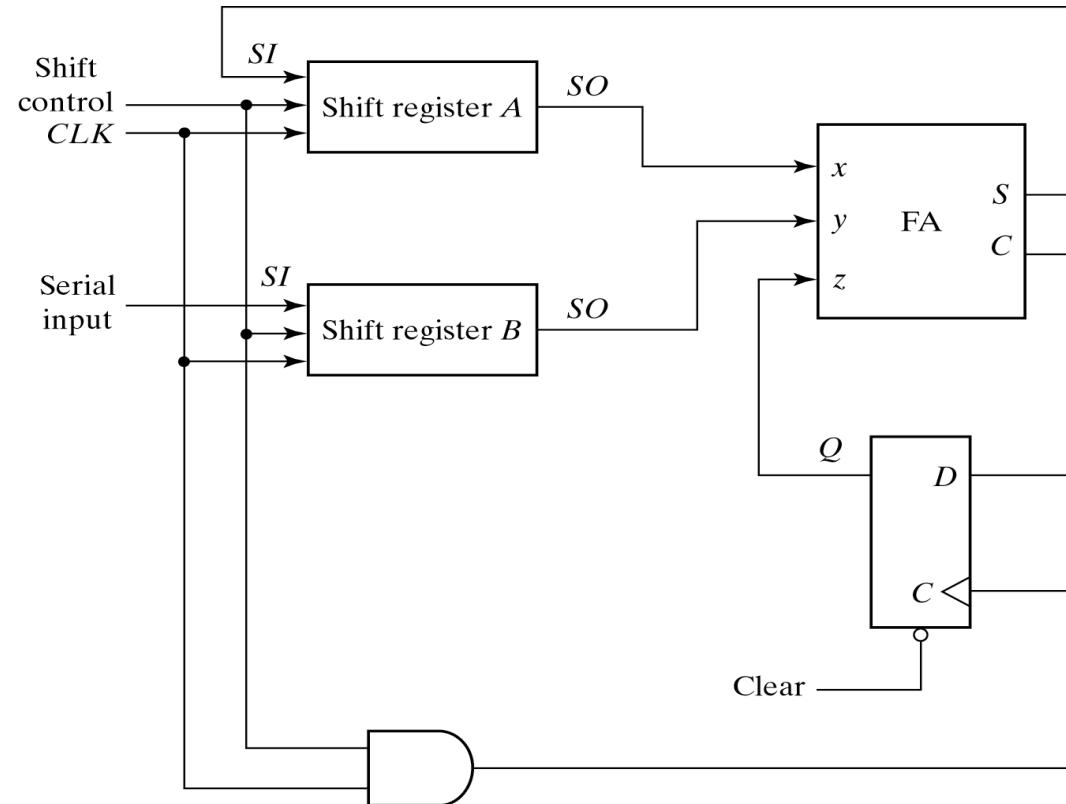

Fig. 6-5 Serial Adder
- Bits are added one pair at a time through a single full adder (FA) circuit, as shown in Fig 6-5